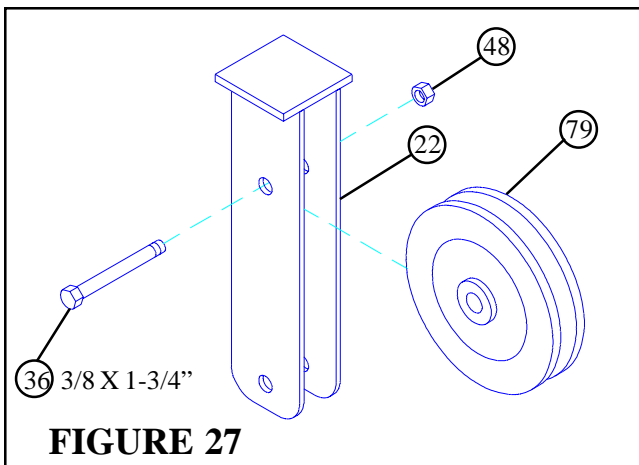

FIGURE 27
- Assemble one 3-1/2" PULLEY (79) to the FLOATING PULLEY BRACKET (22) using one 3/8 X 1-3/4" BOLT (36) and one 3/8" LOCKNUT (48) as shown in FIGURE 27.
- Loop LAT CABLE (92) around pulley in FLOATING PULLEY BRACKET (22) as shown in FIGURE 27.